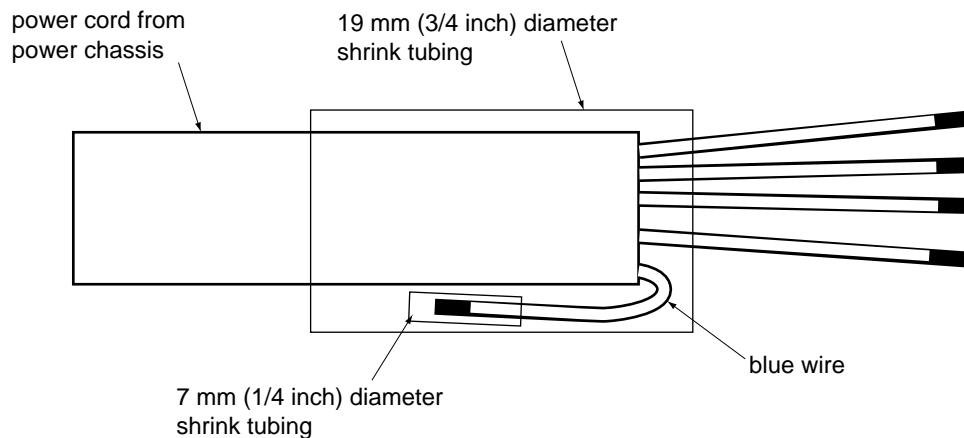

Figure 2-18. Insulating Blue Wire in Power Cord
4. Place the 7 mm shrink tubing over the end of the blue wire in the power cord and use a heat gun to apply it. See Figure 2-18.